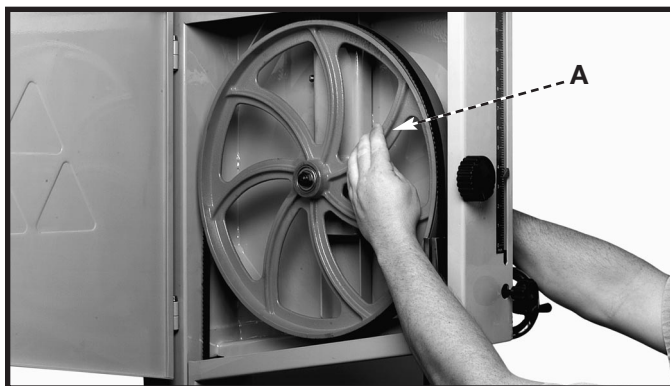
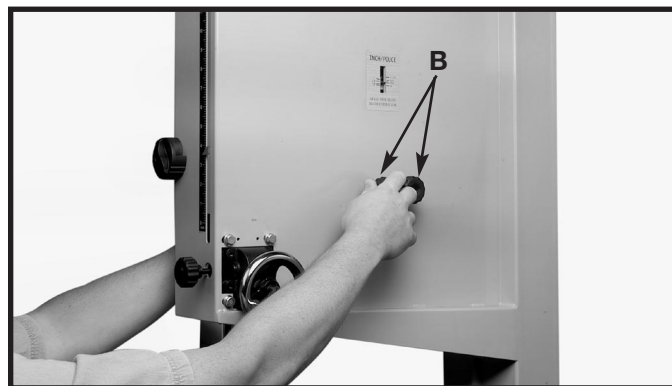

Fig. 19
Fig. 20
1. Rotate the upper wheel (A) Fig. 19 forward by hand and turn the tracking adjustment hand knobs (B) Fig. 20 until the blade travels in the center of the upper wheel.
NOTE: Before turning the hand knobs (B) Fig. 19, loosen the locknuts located under the knobs.
⚠ WARNING To avoid the possible injury and/or damage to the blade, do not make the initial tracking adjustment while the machine is under power. The blade may run off the wheel instantly at high speed. Adjust the tracking knobs (B) Fig. 20 only a fraction of a turn at a time. Each blade has its own tendencies, especially after welding or brazing. Repeat the blade tracking adjustment each time a new or repaired blade is installed, regardless of prior adjustments.
3. Make any necessary final adjustments at operating speed and tighten the locknuts located under the knobs (B) Fig. 20.